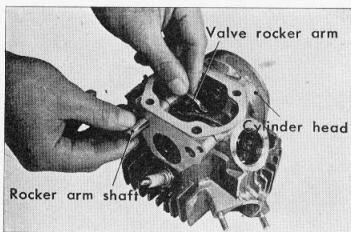

Figure 3-56. Removing the valve rocker arm
- The rocker arm is disassembled from the cylinder head by pulling out the rocker arm shaft. (Fig. 3-56)